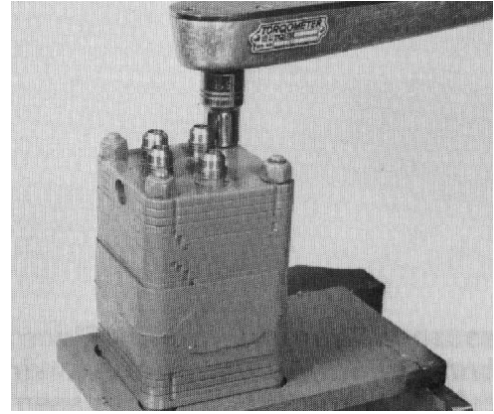
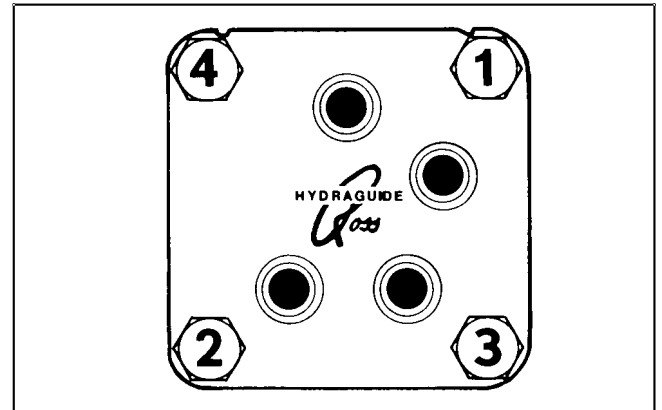

Figure 108
Figure 109
44. Install the lock nuts onto the bolts. Tighten each nut gradually until resistance is felt (Fig. 108). Tighten to a torque of 20 - 24 ft-lb (27 - 33 Nm) in the sequence shown (Fig. 109).